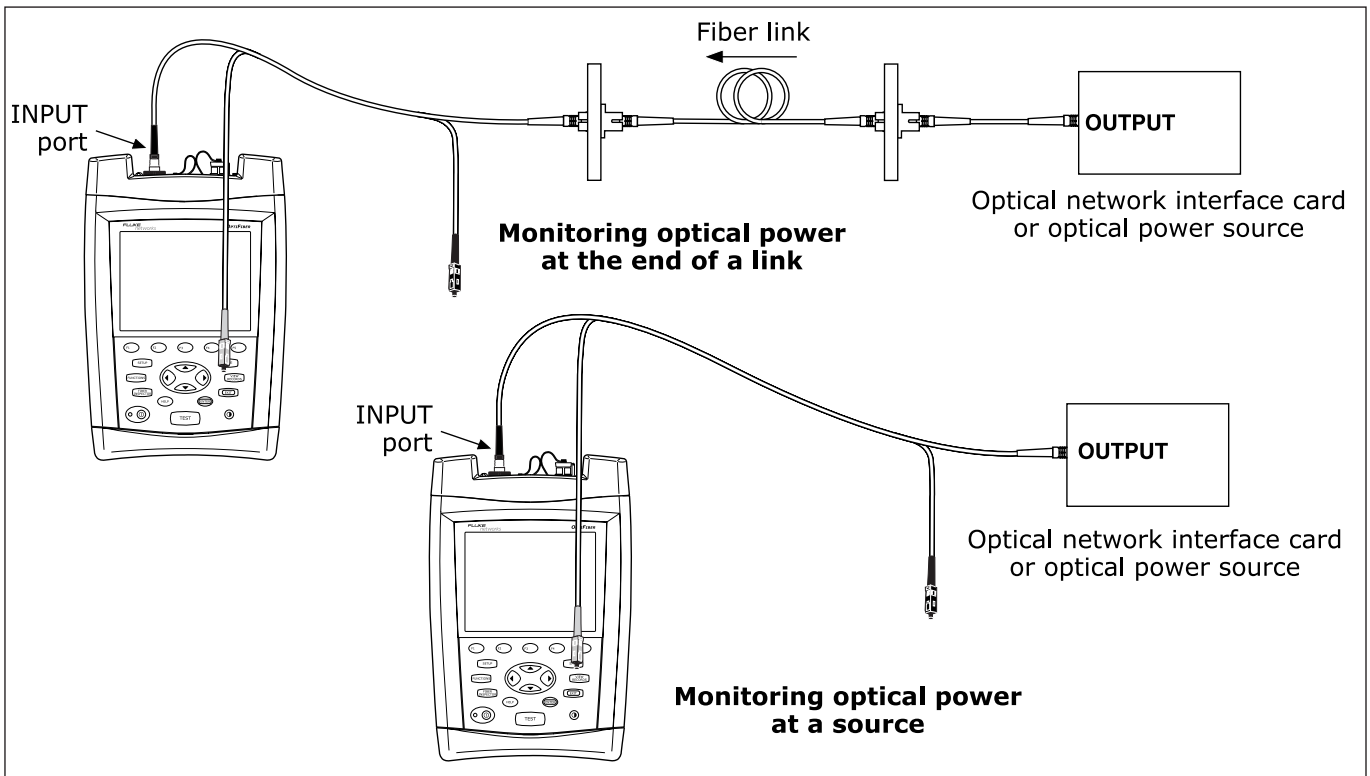

Figure 9-2. Connections for Monitoring Optical Power
- 3 Use the reference test cord to connect the source to the tester's INPUT port, as shown in Figure 9-2; then turn on the source.